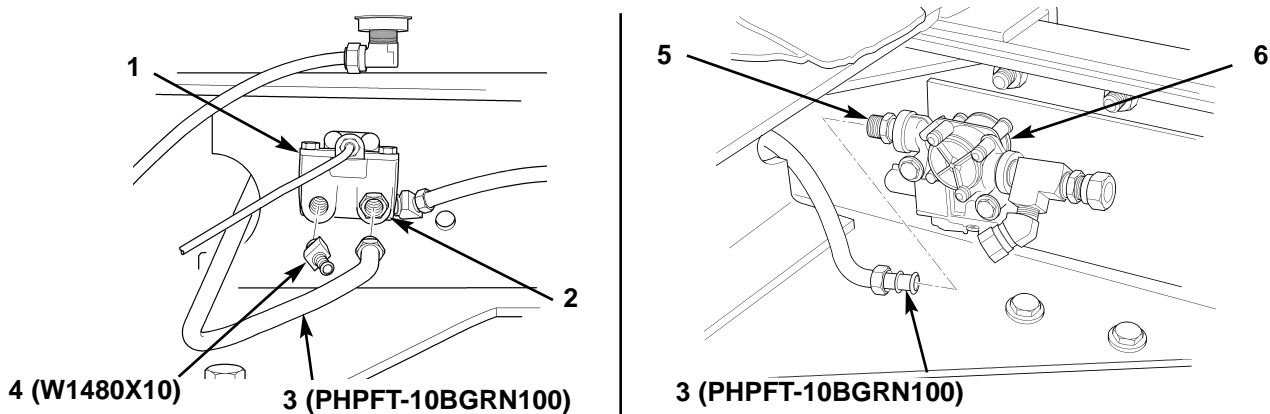

Figure 45. Connecting Tube to Relay Valve and Right-Rear Modulator.
2. Install new elbow (figure 45, item 4) on relay valve (figure 45, item 1) pointing approximately at 5 o'clock position.
3. Cut new 5/8 in. (16 mm) green tube (figure 45, item 3) to 29 1/2 in. (75 cm) in length, connect tube (figure 45, item 3) to adapter (figure 45, item 2), and connect opposite end of tube (figure 45, item 3) to adapter (figure 45, item 5) on right-rear modulator (figure 45, item 6).
4. Cut new 5/8 in. (16 mm) green tube (figure 46, item 2), to 45 in. (114 cm) in length, connect tube (figure 46, item 2) to elbow (figure 46, item 1), and route opposite end of tube (figure 46, item 2) through crossmember opening at left frame rail to left-rear modulator (figure 45, item 3).